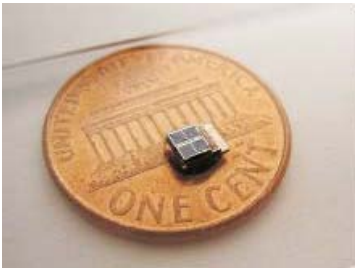

Fig. 2: A millimeter-sized solar energy harvesting sensor.
Advances in IC fabrication and packaging now permit wireless sensor packages – including processor, sensor, network device and power source, like the ones we'll be discussing shortly – as small as one cubic millimeter (1 mm3) in volume (Figure 2).
- Compatible with automated SMT and reflow soldering processes– as illustrated in Figure 2, below.